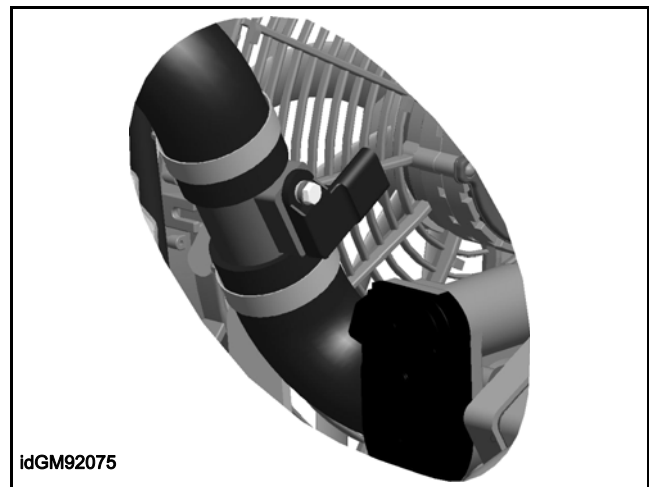

Figure 4-10
1. Push the adjusting cap to its upper stop and rotate clockwise, release upward pressure, and lock into place. **See Figure 4-10.**
1. Push up on the adjusting cap (A) and rotate counterclockwise. Release upward pressure, and lock into place. **See Figure 4-10.**